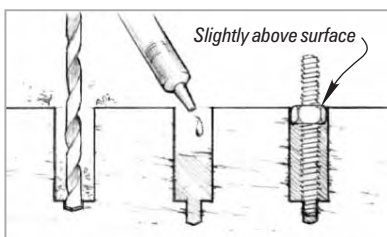

Figure 20 Bond threaded rods or studs into the substrate as an alternative for easily removable hardware.
3. Wet out the lower end of the stud and push it into the epoxy filled hole. Top off the hole or clean away excess as necessary. Allow the epoxy to cure thoroughly before attaching hardware and tightening the nut (*Figure 20*).